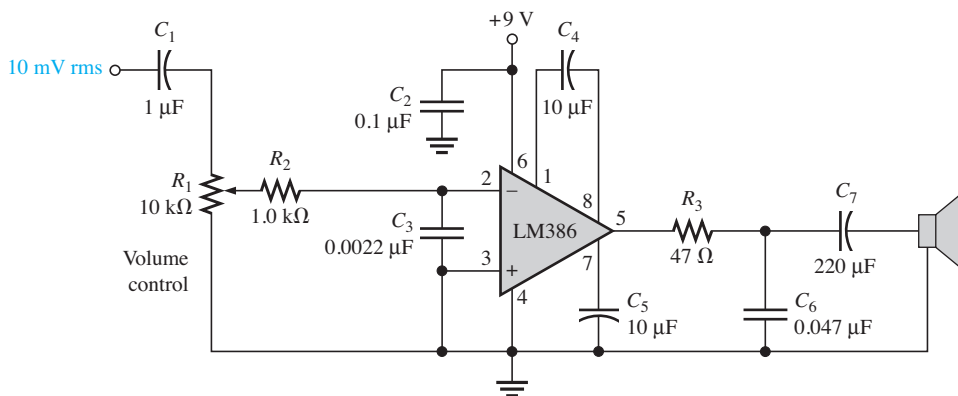

FIGURE 13-57
24. Determine the maximum and minimum output voltages for the audio power amplifier in Figure 13-57.